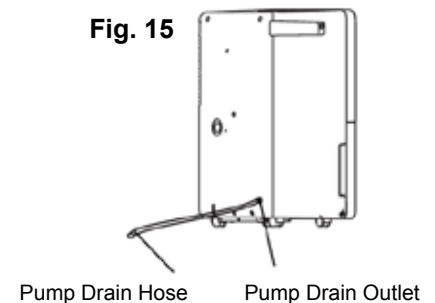

Fig. 16
- Ensure the pump's strainer is not clogged. To check the strainer and/or unclog it. Remove the bucket. Simply pull down the condensate pump's inlet hose. The strainer is a small screened cup, which can easily twist off to be cleaned. Remove only debris from the screen of the strainer and twist it back on the pump inlet hose. Push the pump inlet hose back into the proper position and re-install the bucket. (See Fig. 16).